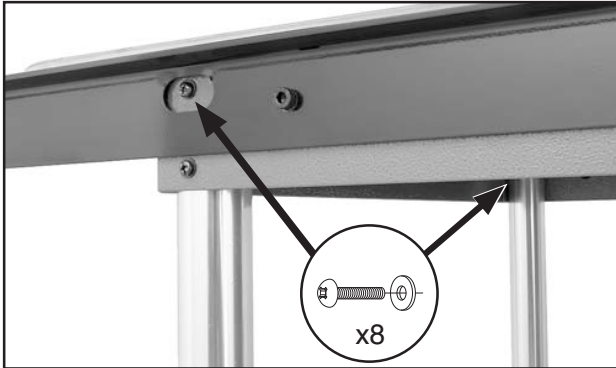

Figure 34. Support leg fastened to main extension table.
7. Fasten the support legs to the main extension table with (8) M6-1 x 12 Phillips head screws and 6mm flat washers (see **Figure 34**).